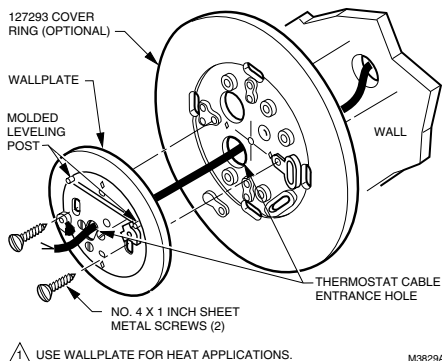
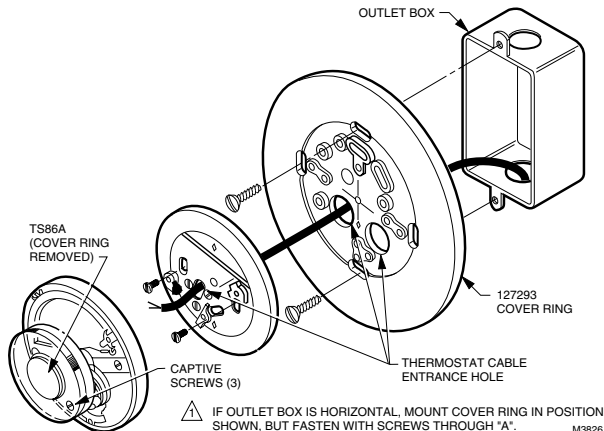

Fig. 2. Mounting wallplate to wall.
Fig. 3. Mounting wallplate to outlet box.
Use 127293 Cover Ring and wallplate to mount on outlet box as in Fig. 3. For wall mounting, use of 127293 Cover Ring is optional (Fig. 2).
3. Fasten the cover ring and wallplate to the wall with the mounting screws as shown in Fig. 2.
Use cover ring, TS86A Wallplate Assembly and screws as shown in Fig. 3.